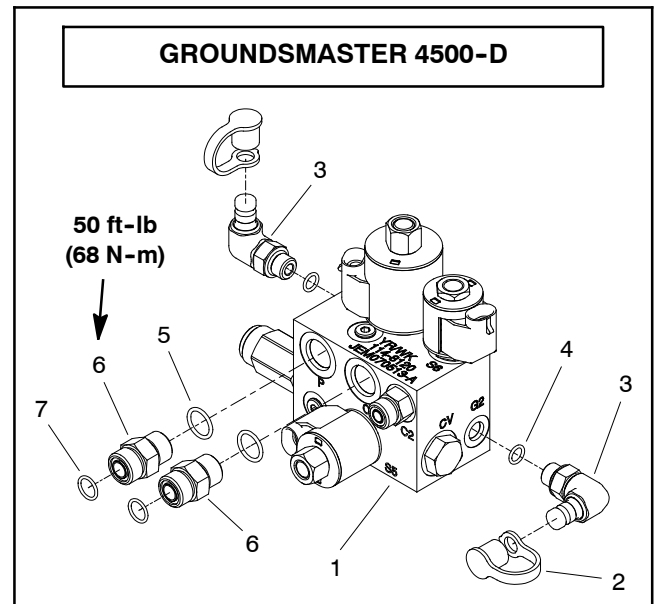

Figure 111
8. If hydraulic fittings are to be removed from lift control manifold, mark fitting orientation to allow correct assembly (Fig. 111 or 112). Remove fittings from manifold and discard O-rings.
1. If fittings were removed from lift control manifold, lubricate and place new O-rings onto fittings. Install fittings into manifold openings using marks made during the removal process to properly orientate fittings. Tighten fittings (see Hydraulic Fitting Installation in the General Information section of this chapter). Refer to Figure 111 or 112 for fitting installation torque.